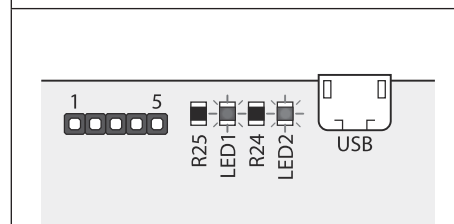

Fig. 41
6. After the 20 seconds both the red LED (LED1) and green LED (LED2) will switch **OFF**, followed by a brief pause, then both LED's will double flash quickly **ON** and **OFF**, as shown in **Fig.41**.